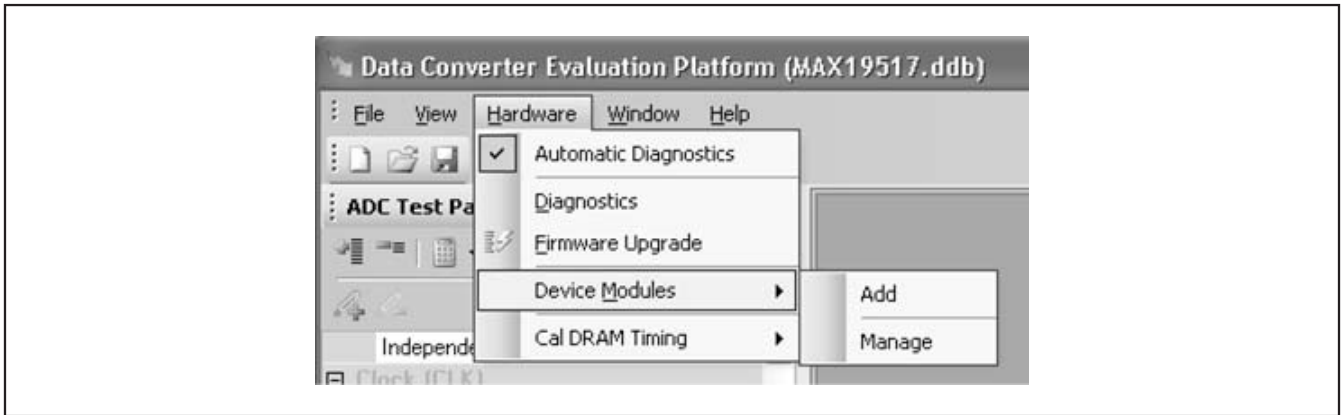

Figure 19. Hardware Menu Options
**Hardware Menu Options:** The options available under the **Hardware** menu item are shown in Figure 19. The option of primary interest to the user is **Device Modules**. Device-specific modules provide software- and FPGA-configuration information required to interface with a specific Maxim EV kit. **Device Modules** pro-